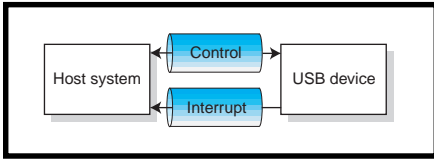

Figure 2—USB devices use logical “pipes” to transfer information. This device uses two.
Let's assume a simple document with black (or dark) text printed on top of a white (or light) background paper. To drive the optical sensor, you need two signals—a serial input (SI) and a clock (CLK). The system logic schematic is shown in Figure 2.
Pure HID devices use only two pipes (see Figure 2). The control (default) pipe, required by all USB devices, is used for receiving and responding to specific requests or commands. The standard requests use this pipe, and many of the class definitions (including HID) add class-specific requests.